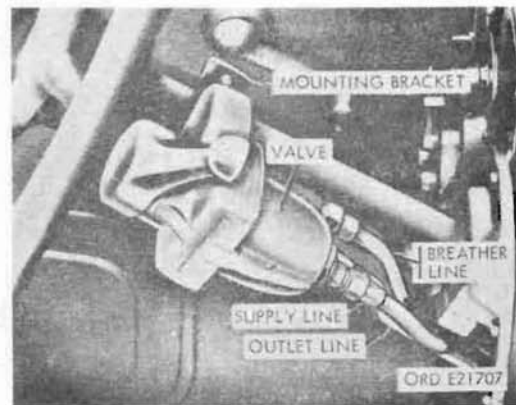

Figure 272. Airbrake hand control valve
247. Airbrake Hand-control Valve (Fig. 272)
b. Installation. Install flared tube connector in exhaust port, and compression tube connector in supply and delivery ports. Install valve (fig. 272) on steering column and fasten with two bolts and lockwashers, but do not tighten. Connect brake hand-control valve breather line to flared tube connector in the exhaust port. Connect brake hand-control valve supply line to compression tube connector in supply port. Connect brake hand-control valve line to connector in delivery port. Tighten valve mounting bolts securely. Close reservoir draincocks (par. 222).